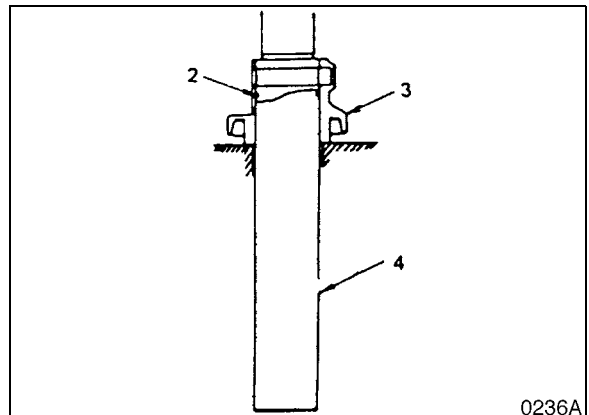

Figure 32
1. Degrease, clean and dry all parts before reassembly. Insert bushing (7, Figure 32) into roller.
2. Apply grease to the O-rings (2, Figure 32) and insert into axle.